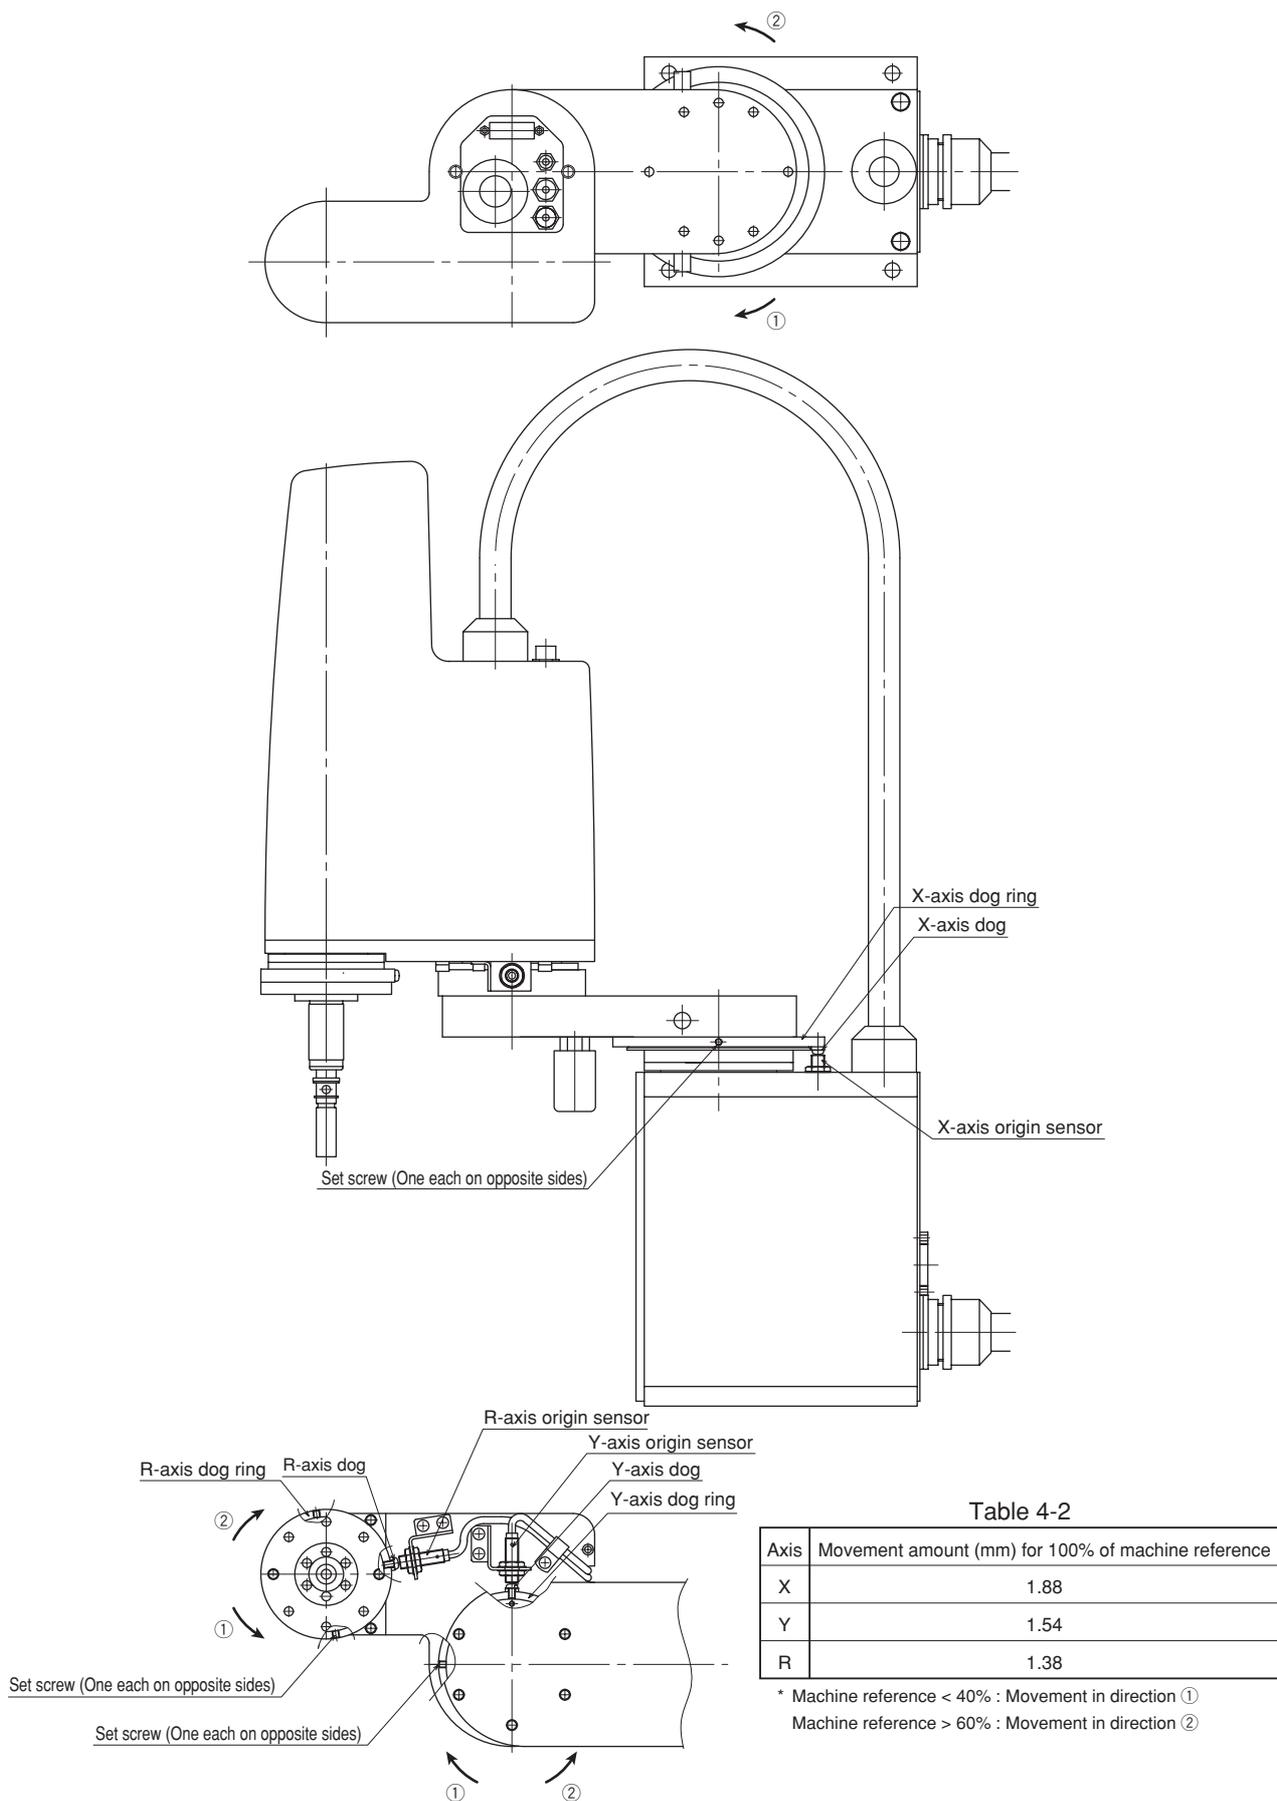

Fig. 4-9
- 6) Use the hex wrench to loosen two setscrews which fasten the dog ring of the X-axis joint area. (See Fig. 4-9.)
- 8) Use the hex wrench to loosen two setscrews which fasten the dog ring of the Y-axis joint area. (See Fig. 4-9.)
- 9) Refer to Fig. 4-9 and Table 4-2 and turn the dog ring to the minimum extent.
- 6) Use the hex wrench to loosen two setscrews which fasten the dog ring of the Y-axis joint area. (See Fig. 4-9.)
- 8) Use the hex wrench to loosen the two setscrews which fasten the dog ring on the R-axis area. (See Fig. 4-9.)
- 6) Use the hex wrench to loosen the two setscrews which fasten the dog ring on the R-axis area. (See Fig. 4-9.)